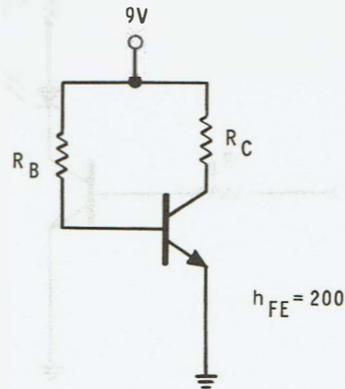

Figure 2-13
Refer to Figure 2-13 for questions 5 through 8.
Therefore, the power dissipated by the transistor in Figure 2-13 is _____ mW .
8. The data sheet for the transistor in Figure 2-13 lists $V_{CE(\text{sat})} = 0.2\text{V}$ and $I_{CEO} = 0.01\mu\text{A}$. By using the Equation 2-10, you can calculate the power dissipated by the transistor for the saturated and cutoff modes. Consequently, $P_{D(\text{sat})}$ _____ mW , and $P_{D(\text{cut})}$ _____ μW .